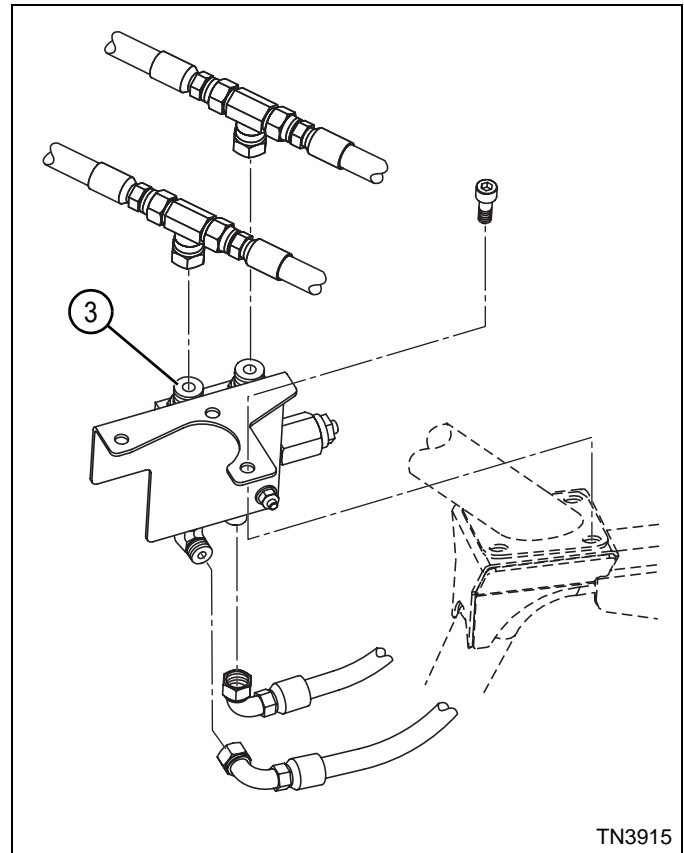

Figure 5-44
3. Remove blocking disk at location (3). See Figure 5-44. Connect tee fitting back to flushing valve.